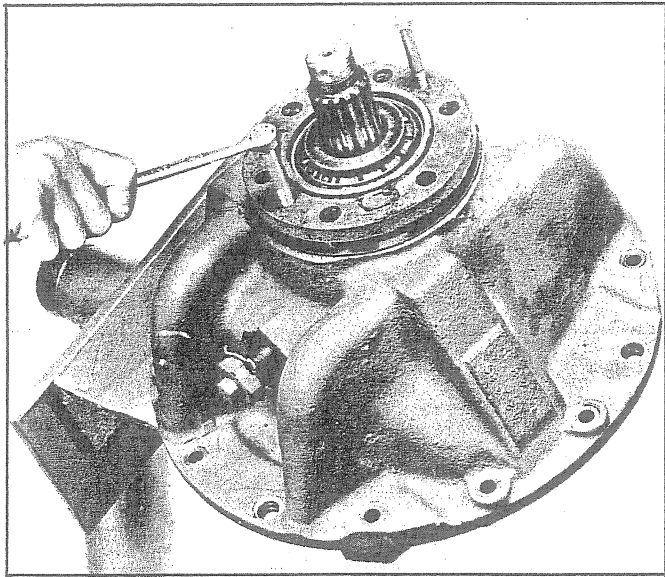

Fig. 51 - Removing Pinion Bearing Cage
8. Use two puller bolts threaded in holes provided and remove bearing cage as shown in Fig. 51.